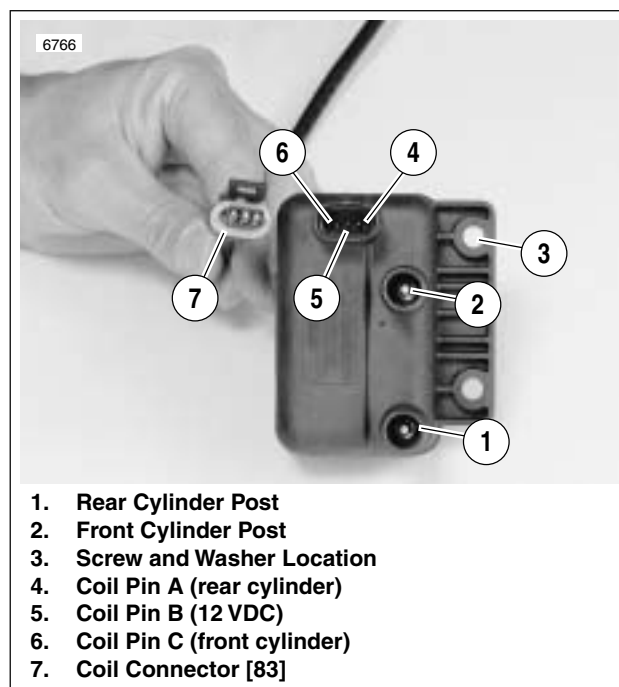

Figure 4-78. Ignition Coil
3. See Figure 4-78. Disconnect the spark plug cables from the coil plug posts (1, 2).
4. Detach connector (7) [83].
2. See Figure 4-78. Attach connector (7) [83].
3. Connect front spark plug cable to connector (2) and rear spark plug cable to connector (1).